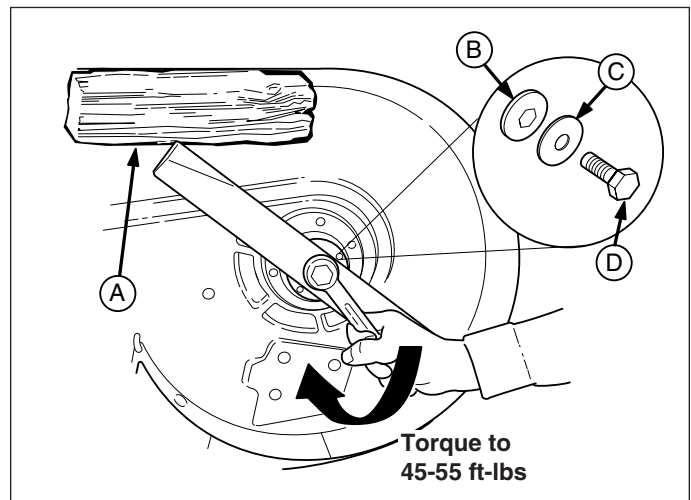

Figure 21. Installing The Blade
6. Reinstall each blade with the tabs pointing up toward deck as shown in Figure 21. Secure with a capscrew (D), cup washer (C) and hex washer (B). Use a wooden block (A) to prevent blade rotation and torque capscrews to 45-55 ft-lbs (61-75 Nm).